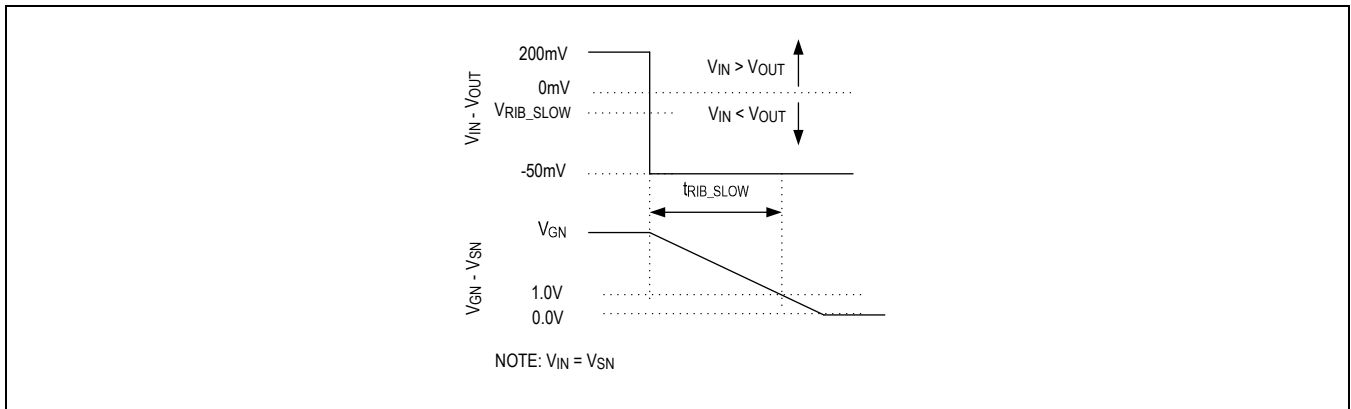

Figure 1. Slow Reverse-Current-Blocking Response Time
**Note 5:** Time from  $V_{IN} - V_{OUT}$  voltage transition from 200mV to -50mV until GN pin voltage falls to  $V_{SN} + 1V$  (Figure 1).